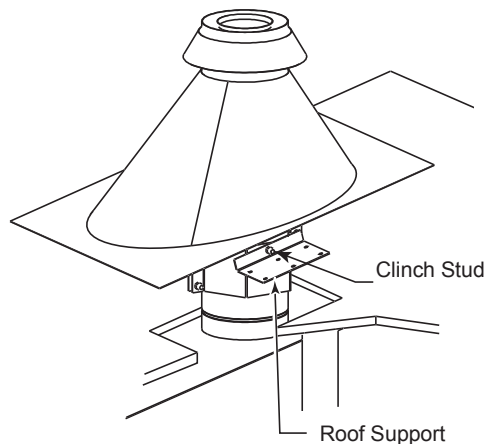
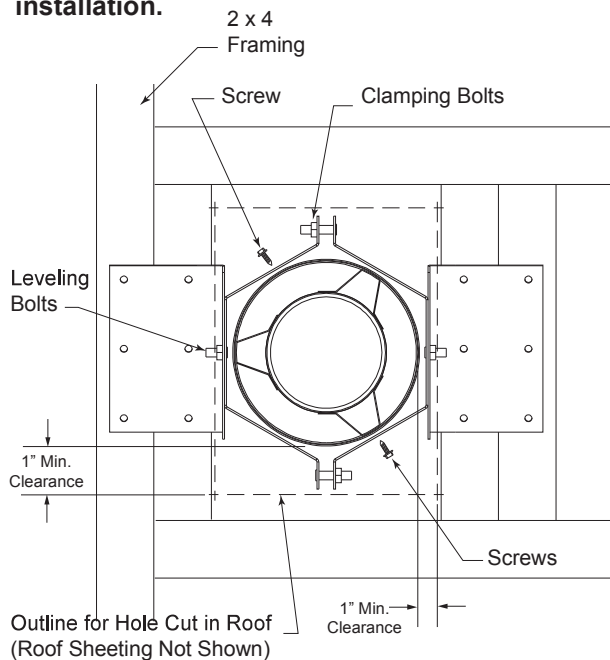

Figure 21 Roof Support
Figure 22 Typical Roof Support (top view)
- Fasten the roof support to the roof sheathing using 2" wood screws provided. *Figure 21.* Ensure that the termination pipe is centered and has a minimum of 1" clearance on all sides from combustible materials. *Figure 22*